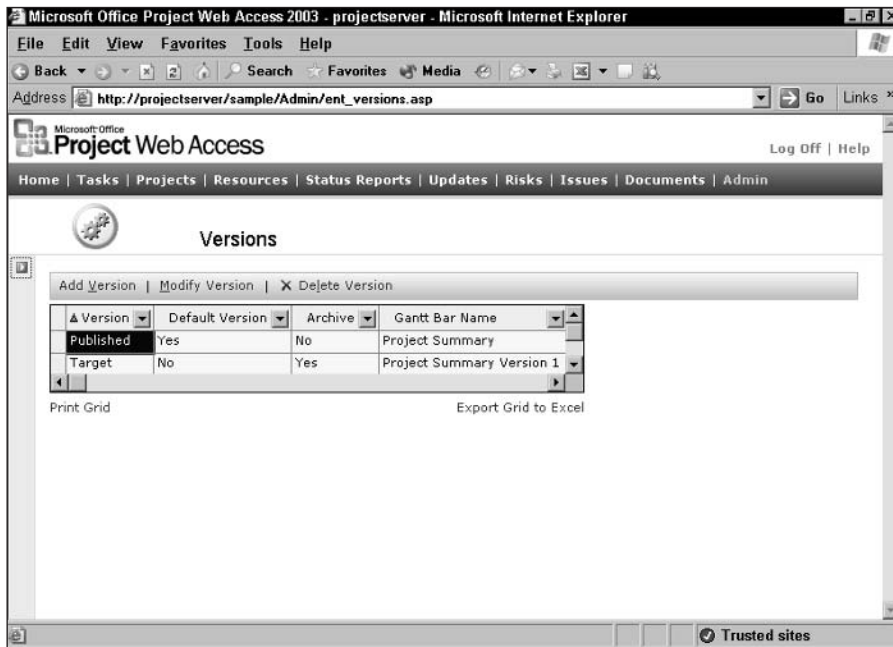

Figure 19-22: From this page, you can add, modify, or delete versions.
3. Click Versions under the Enterprise Options heading on the left side of the window. Project Web Access displays any available versions on the Versions page, as shown in Figure 19-22.